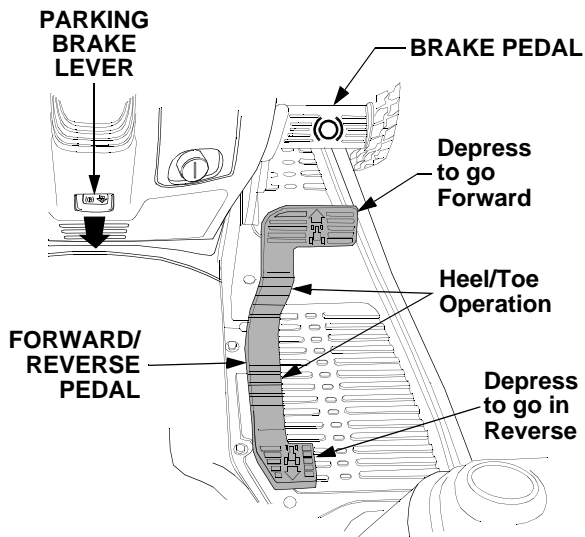

Figure 15
- Fully depress the brake pedal to bring the tractor to a complete stop. Push downward on the parking brake lever and release the pedal to engage the parking brake. See Figure 15.
- To move forward, slowly depress the front of the forward/reverse pedal until the desired speed is achieved. The speed of the tractor is directly related to the distance the pedal is depressed. See Figure 15.